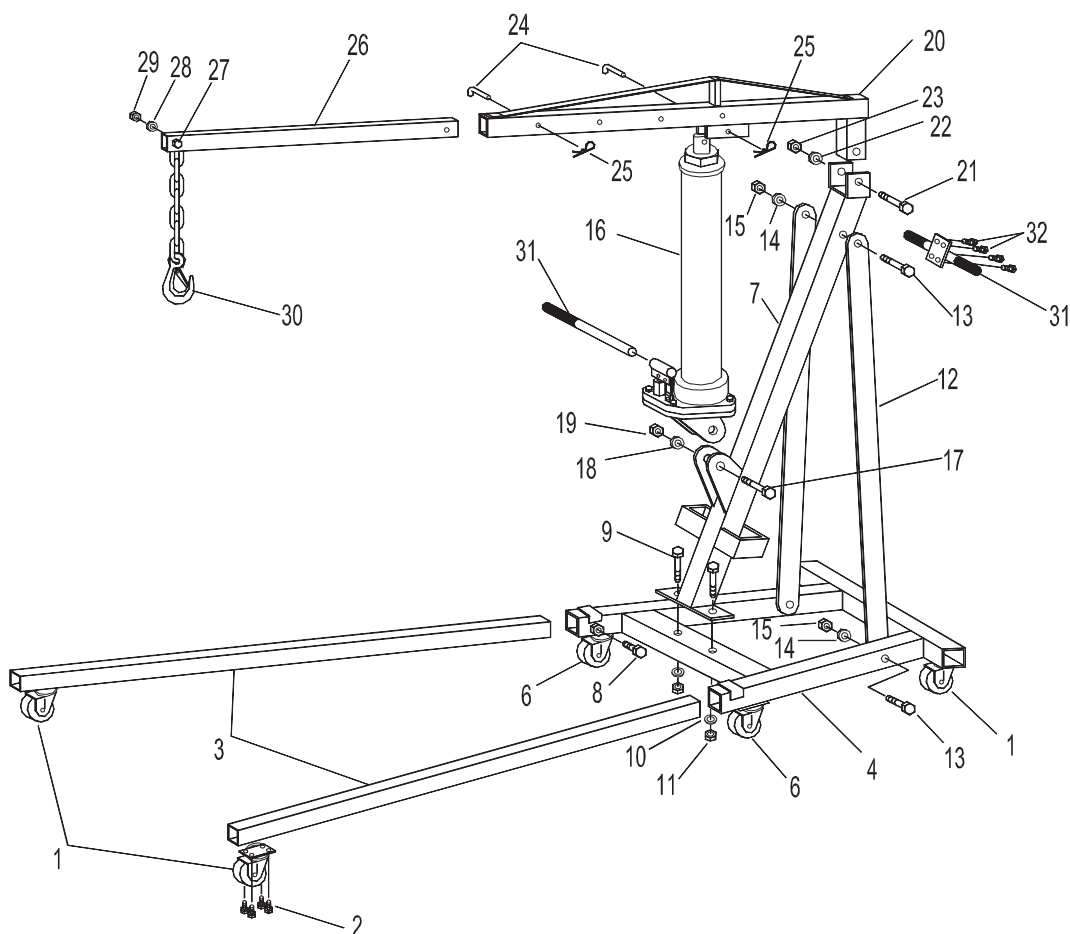

Figure 2 - Assembly Illustration for Model ATD-10141
- a. Remove lock pin (#24 on figure 2) from boom.
- c. Remove bolts (#8 on figure 2) of left and right legs of the crane.